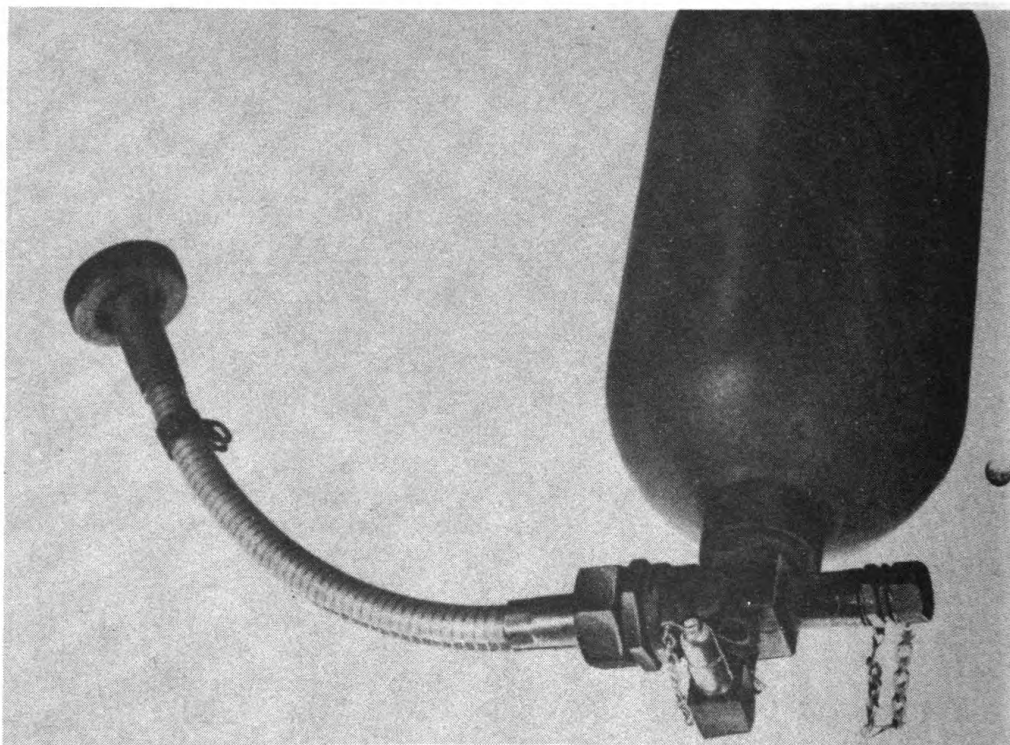

FIGURE 35.6. (Added.) Pressure tank and valve assembly with dust cap over plug opening.
(6) Put cap as far as it will go over opening of the plug. (See fig. 35.6.) This prevents dust and other foreign matter from entering empty pressure tank.